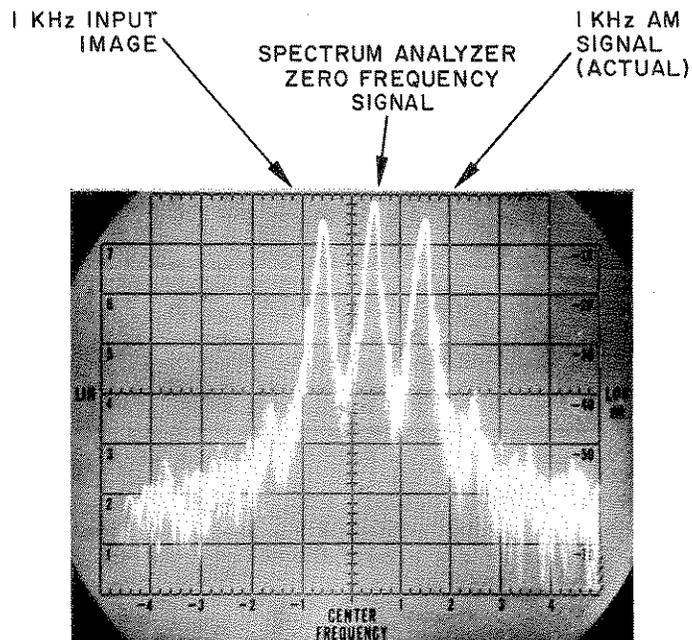

Figure 4-11. Spectrum Analyzer Display
9. Adjust spectrum analyzer frequency control to center 1 kHz 8601A modulation signal on spectrum analyzer (see Figure 4-11).
As shown in Figure 4-11, there are three signals present. Adjust actual 1 kHz signal to center of analyzer display as shown.